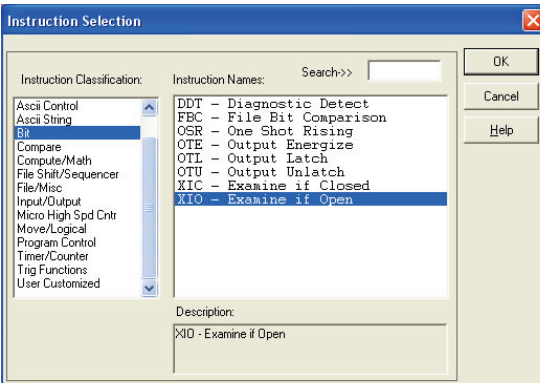

Figure 81: XIO Instruction Selection
- b) Select the “XIO” instruction from the “Bit” classification, then click OK. Refer to Figure 81.